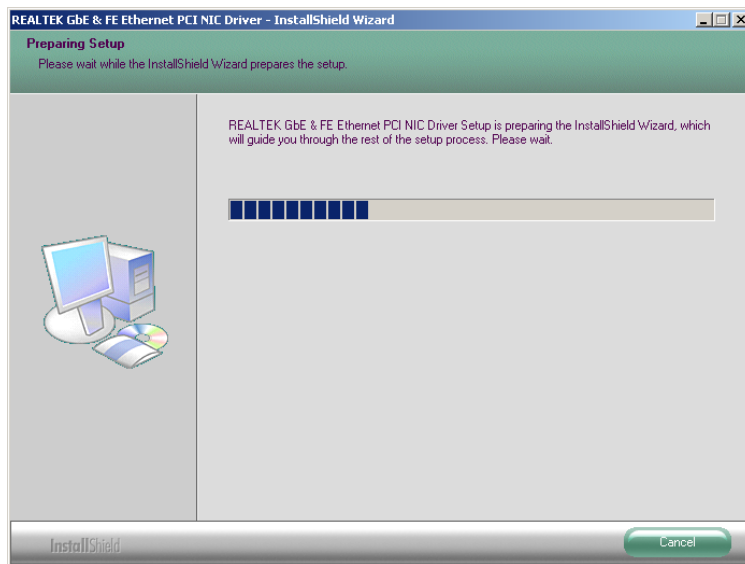

Figure 7-32: RTL8110SC InstallShield Wizard Continues
Step 10: The **InstallShield Wizard** continues (Figure 7-32).